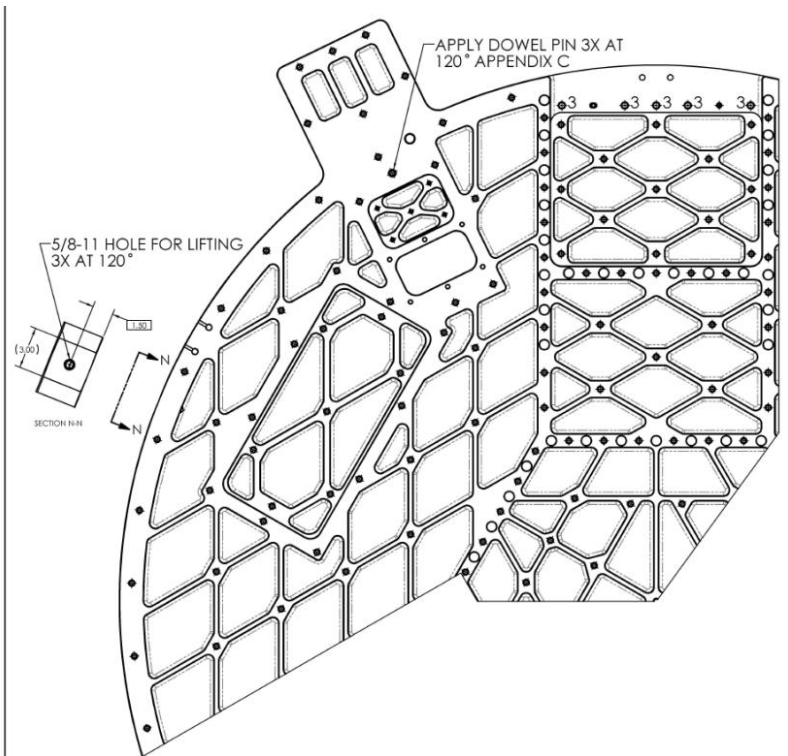

Fig 6.2
- Rotate plate install Dowel pins see Figure 6.2 and Appendix C for p/n and illustration
for 1/2 x 1.25 dowel pin, Figure 6.2. install Helicoils on the ribbed side labeled